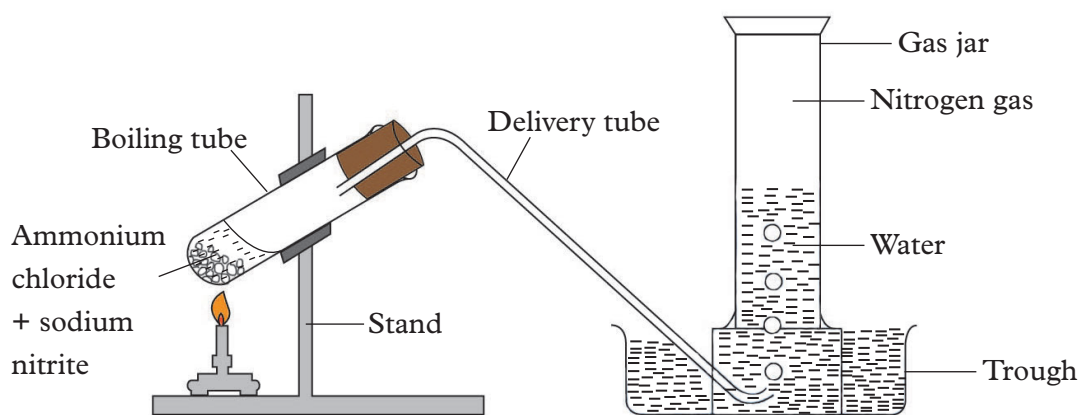

Fig. 2.4: Laboratory preparation of nitrogen
3. Arrange the apparatus as shown in Fig. 2.4 below.